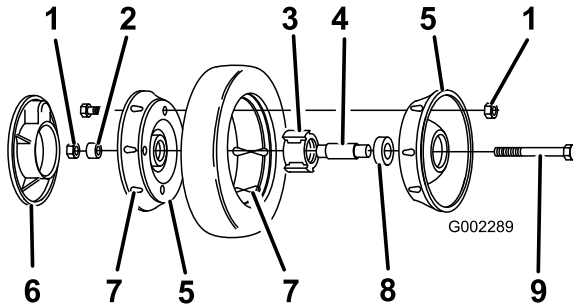

Figure 31
3. Remove the bolt, the wheel spacer, and the locknut mounting the wheel to the pivot arm (Figure 31).
4. Separate the wheel halves from the tire by removing 4 bolts and 4 locknuts (Figure 31).
- Note:** If you remove the bearings from the bearing/hub assembly, remove them by pressing on the bearing spacer (Figure 31).
1. Position the tire onto one wheel half, aligning the lugs on each (Figure 31).
2. Place the bearing/hub assembly into the center hole of the wheel half. Ensure that the legs of the hub are positioned over the flange of the hole (Figure 31).
3. Place the other wheel half onto the bearing/hub assembly, aligning the wheel and the tire lugs and the mounting holes (Figure 31).
4. Using 2 fully threaded screws or bolts (1/4-20 x 1.50 inch) and non-locking nuts, loosely secure the wheel halves together. Mount the screws or bolts in the opposing holes (Figure 31).
5. Check the alignment of all parts and tighten the bolts, alternating from side to side for a uniform fit, until the wheel halves are drawn together (Figure 31).
tighten. Remove the 2 long screws or bolts and replace them with 2 bolts and 2 locknuts (Figure 31).
7. Install the wheel to the pivot arm with the bolts, a spacer, and a locknut. Ensure that the spacer is positioned between the wheel hub and the pivot arm (Figure 31).